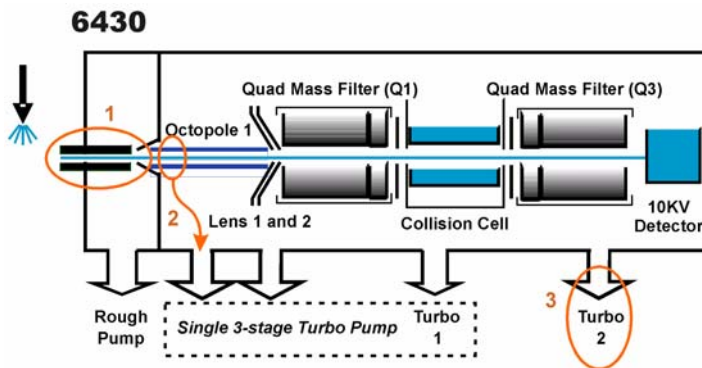

Figure 12 Enhancements in the 6430
- The same inert capillary transfer tube (denoted as 1 in Figure 12)
- Improved pumping in vacuum stage 2 (denoted as 2 in Figure 12)
- A second turbo pump has been added (denoted as 3 in Figure 12)